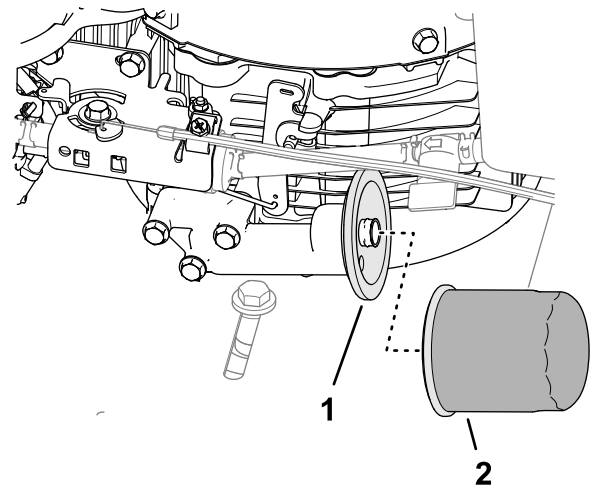

**Figure 32**
5. Remove the oil-drain plug from the drain port of the engine (Figure 32), and tip the machine so that the oil flows into the pan.
2. Place a rag under the oil filter (Figure 32) to catch oil when you remove the filter.